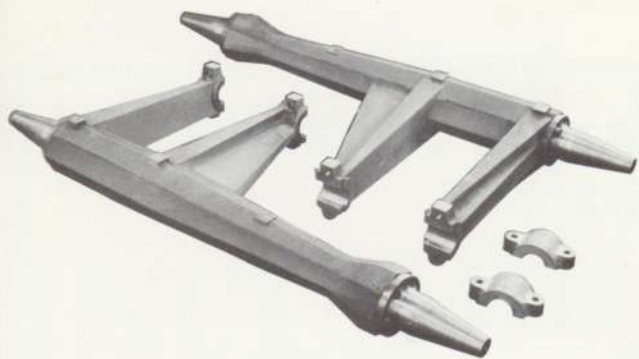

Fig. 4 Roller Yoke Castings
**COMPLETE ROLLER:** (Fig. 3) These are 18" (457 mm) wide x 70" (1,778 mm) outside diameter. With Roller Shaft, Bearings, and weight contribution by the Yoke Casting (Fig. 4), the total effective CRUSHING WEIGHT for each Roller is 14,638 lbs. (6,646 kg).